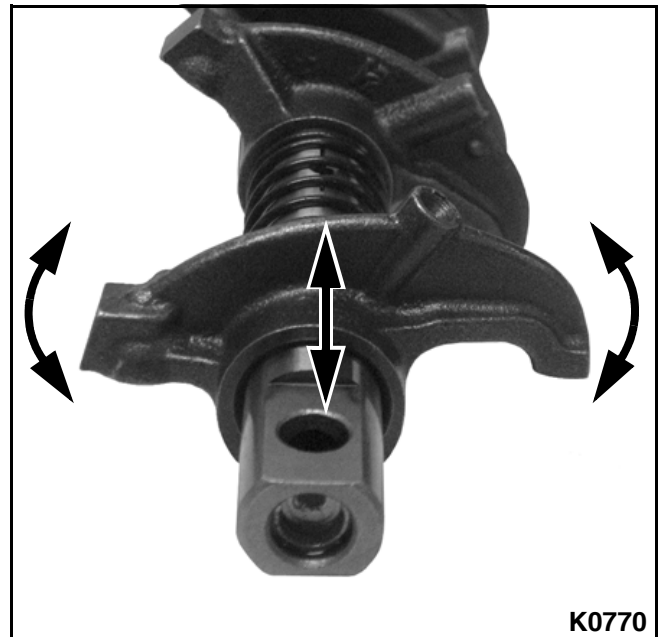

Figure 3-128: Checking the Rocker Arm-to-Shaft Clearance
2. Inspect the rocker arm-to-shaft clearance by moving each rocker arm as shown, checking for movement. **See Figure 3-128.**